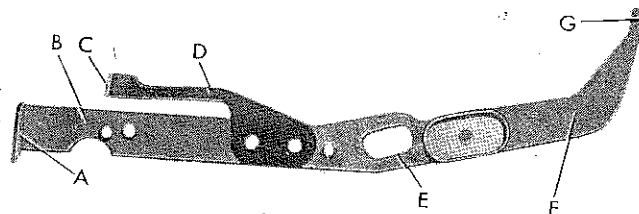

Figure 47—Safety Lever Assembly
h. ADJUSTING THE SAFETY LEVER ASSEMBLY. (See figure 47.)—Correct adjustment of the safety lever assembly is extremely important to proper operation of the camera. Whenever it is neces-